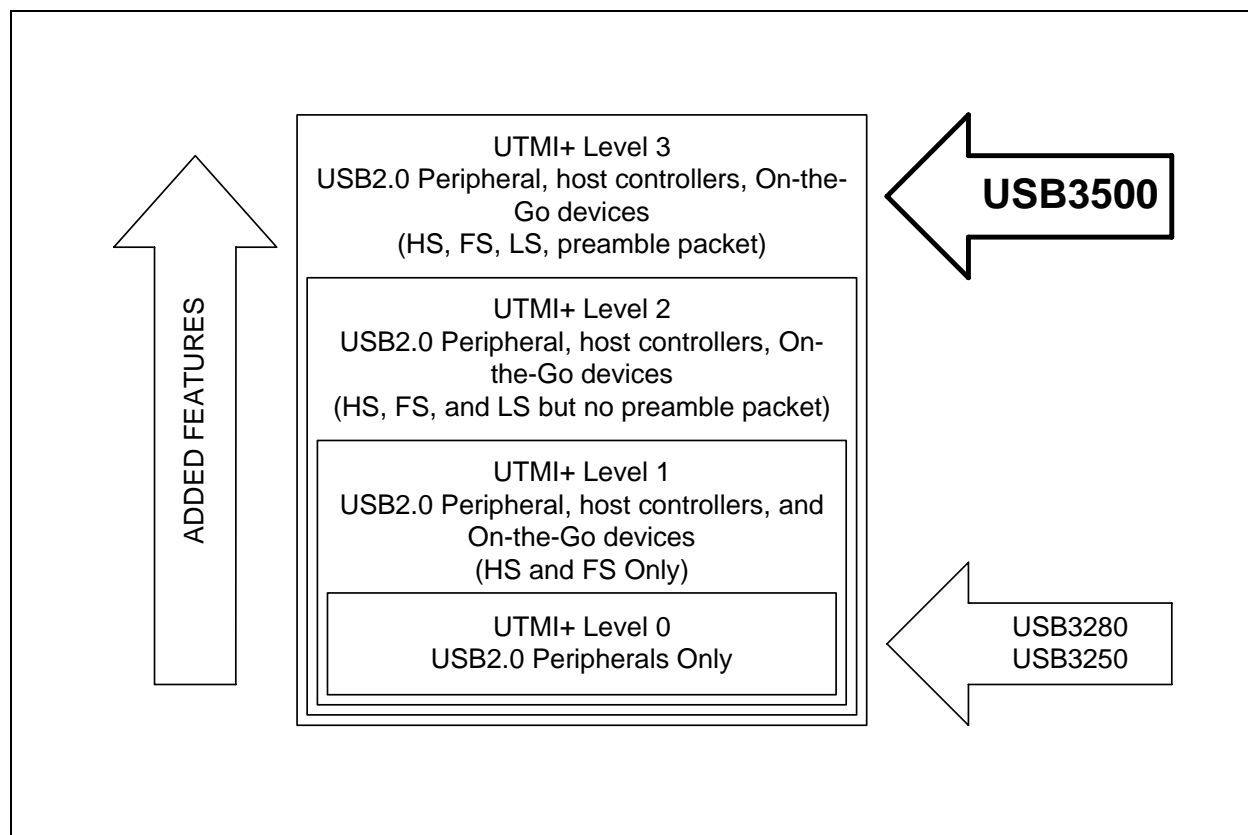

Figure 1.2 UTMI+ Level 3 Support
The USB3500 provides a fully compliant USB 2.0 interface, and supports High-Speed (HS), Full-Speed (FS), and Low-Speed (LS) USB. The USB3500 supports all levels of the UTMI+ specification as shown in Figure 1.2.